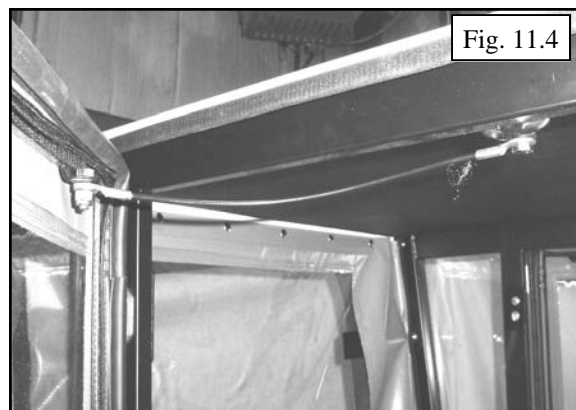

Fig. 11.4
11.4 Apply grease to the pin hinges. With assistance, re-install the doors onto the pin hinges. Work the doors back and forth until the hinges are completely seated. Install the supplied cable door stops between the bracket on the door and the bracket on the side frame, see figure 11.4. Tighten hardware to engage the nylon lock nuts but loose enough to allow the cable ends to pivot.